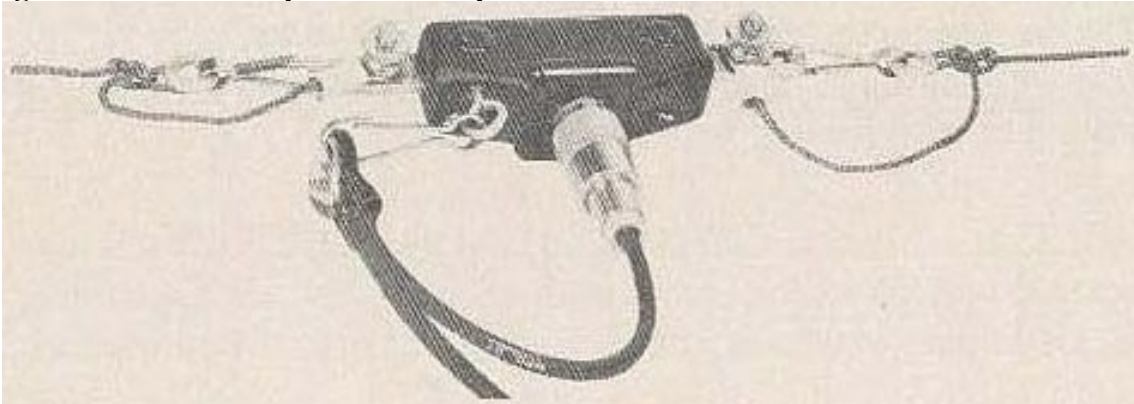

Figure 9. Center Junction of 938A-1 Antenna
A. Unwind the support throw lines and enough antenna wire from each bobbin, for the frequency in use. Markings on the antenna wire are provided to simplify this operation. Connect the ends to the dipole center junction terminals as shown in figure 9. Connect snap fasteners to provide strain relief.
A. Unwind the support throw lines and enough antenna wire from, each bobbin for the frequency in use. Markings on the antenna wire are provided to simplify this operation. Connect the ends to the dipole center junction terminals as shown in figure 9. Connect snap fasteners to provide strain relief.